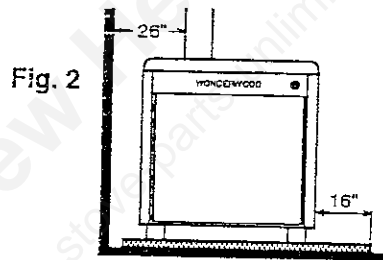

Fig. 2
Minimum clearances to unprotected combustible walls and ceilings as noted by figures 2 through 4 must be maintained. Drapes, curtains, furniture and other combustible materials should be kept much further away from the heater to avoid fire. If you choose to, you may install the heater and chimney connector closer to combustible surfaces than indicated by Figures 2 through 4 if a clearance reduction system is also installed to protect combustible ceilings and walls near the heater and chimney connector. However, there are limits to how close the heater and chimney connector can be installed to combustible surfaces protected by a clearance reduction system. A correctly installed clearance reduction system protects the combustible surfaces well beyond the sides and above the top of the heater and beyond the sides and top of the chimney connector pipe.
3. Check Figures 2, 3, and 4. Be sure you have the clearances shown from the heater and the connector pipe to combustible surfaces. If you have a solid brick or stone wall behind your heater, you can place the heater as close as you wish to the wall. If the wall is only faced with brick or stone, treat it as a combustible wall.